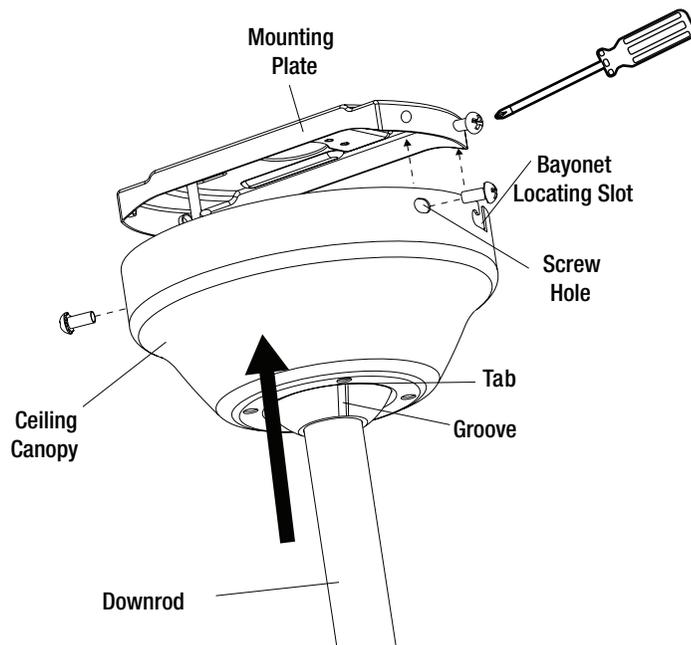

Figure 9
- When the electrical connections have been made, take the fan off the hook. Slide the ceiling canopy up the downrod, making sure that the ball joint groove engages with the ceiling canopy entry hole tab. Slide the bayonet slots on the ceiling canopy onto the screws at either end of the mounting plate, secure with the four screws provided (Figure 9).